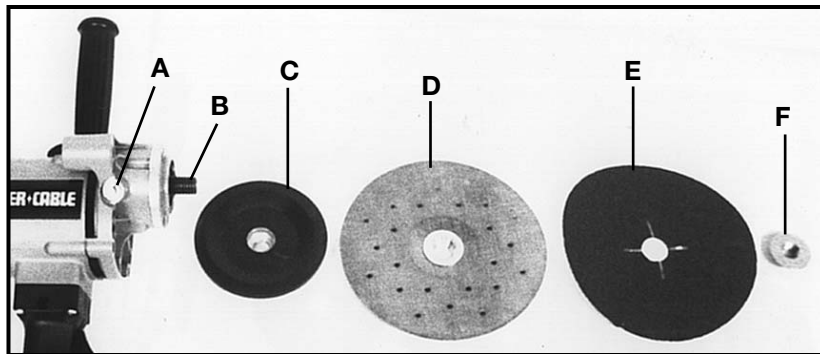

Fig. 6
2. Depress spindle lock pin (see Fig. 6) and rotate back-up pad clockwise onto spindle until it seats. Then rotate the flexible disc onto shaft until it seats.